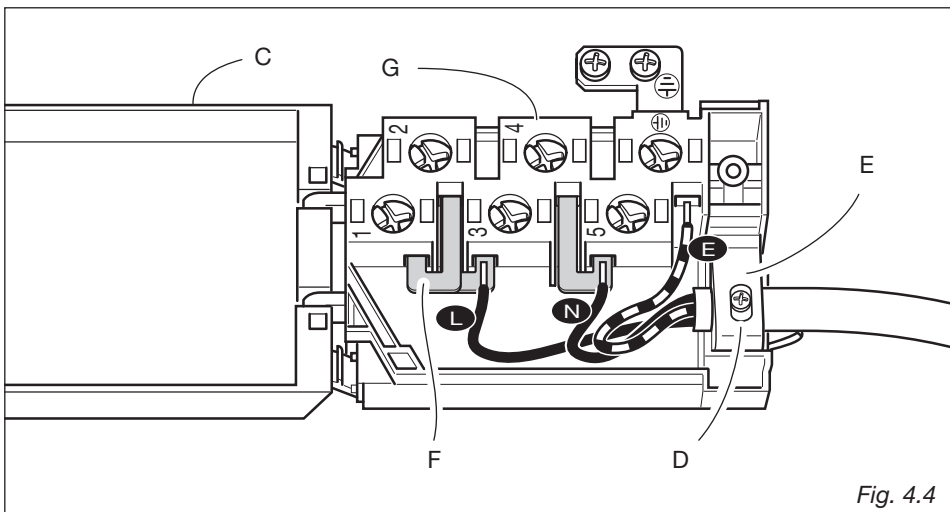

Fig. 4.4
- Unscrew the screw **D** and open completely the cable clamp **E** (fig. 4.4).
- Position the U bolts **F** onto terminal board **G** (fig. 4.4) according to the diagram in fig. 4.3.